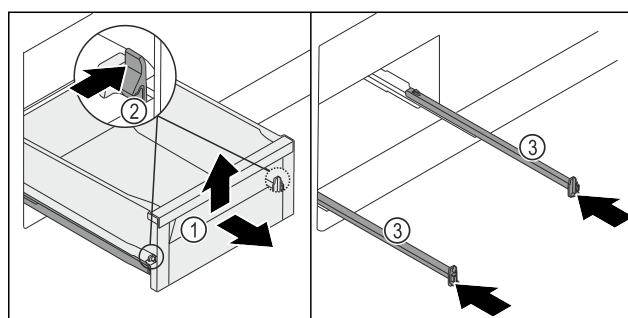

Fig. 137
- Pull out the drawer Fig. 137 (1) as far as it will go.
- Press the left and right clamp Fig. 137 (2) inward at the same time.
- The drawer Fig. 137 (1) is released from the rails.
- Lift up the drawer Fig. 137 (1) at the front.
- Remove the drawer Fig. 137 (1) from the front.
- Push in the rails Fig. 137 (3).